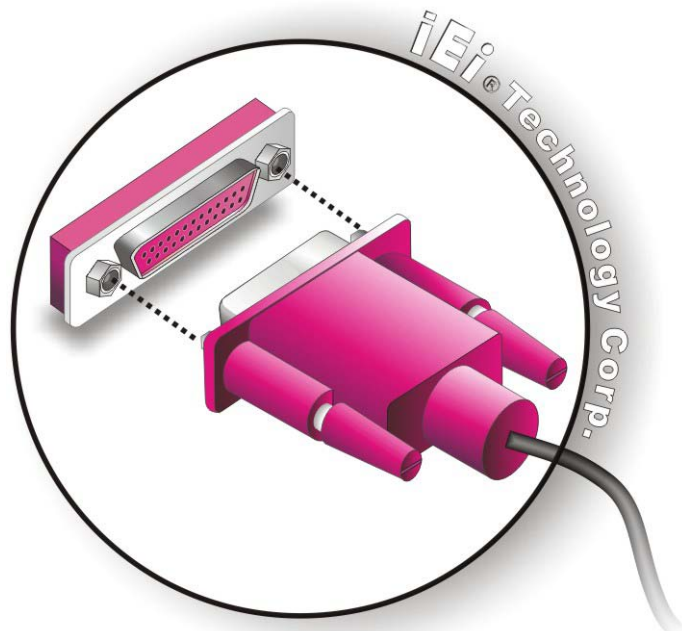

Figure 4-20: Parallel Device Connector
Step 2: **Insert the DB-25 connector.** Insert the DB-25 connector of a parallel device into the DB-25 connector on the external peripheral interface. See Figure 4-20.